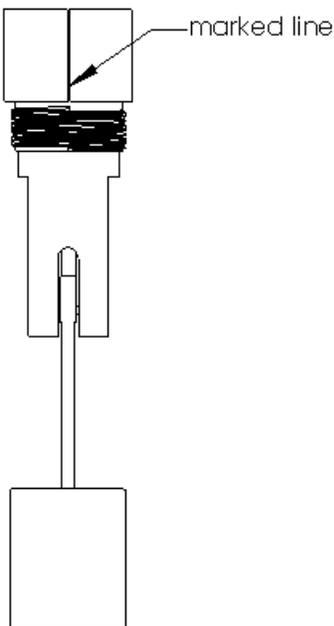

Figure 6 Marked Line showing Direction of Float
- Note: There is a marked line on the valve as shown in Fig 6 to indication the direction of swing for the float. Be sure to install so that there is no obstruction to the swing of the float. The float will swing to the right or left of the marked line for shut off.